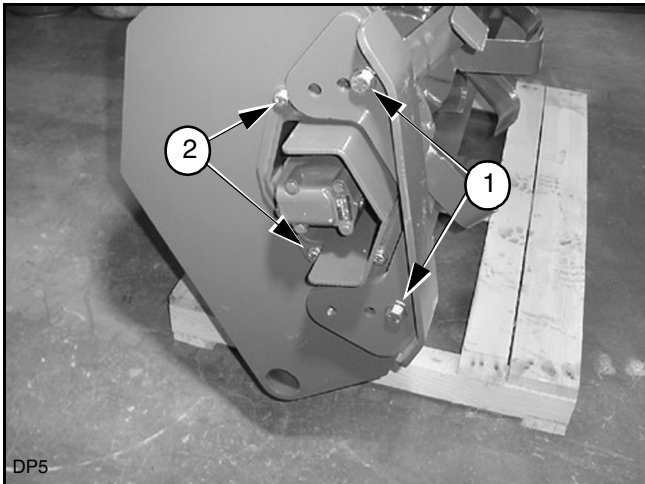

Figure 6.
Remove the two depth skid bolts (1) and four motor housing bolts (2) from one side as shown in Figure 6.